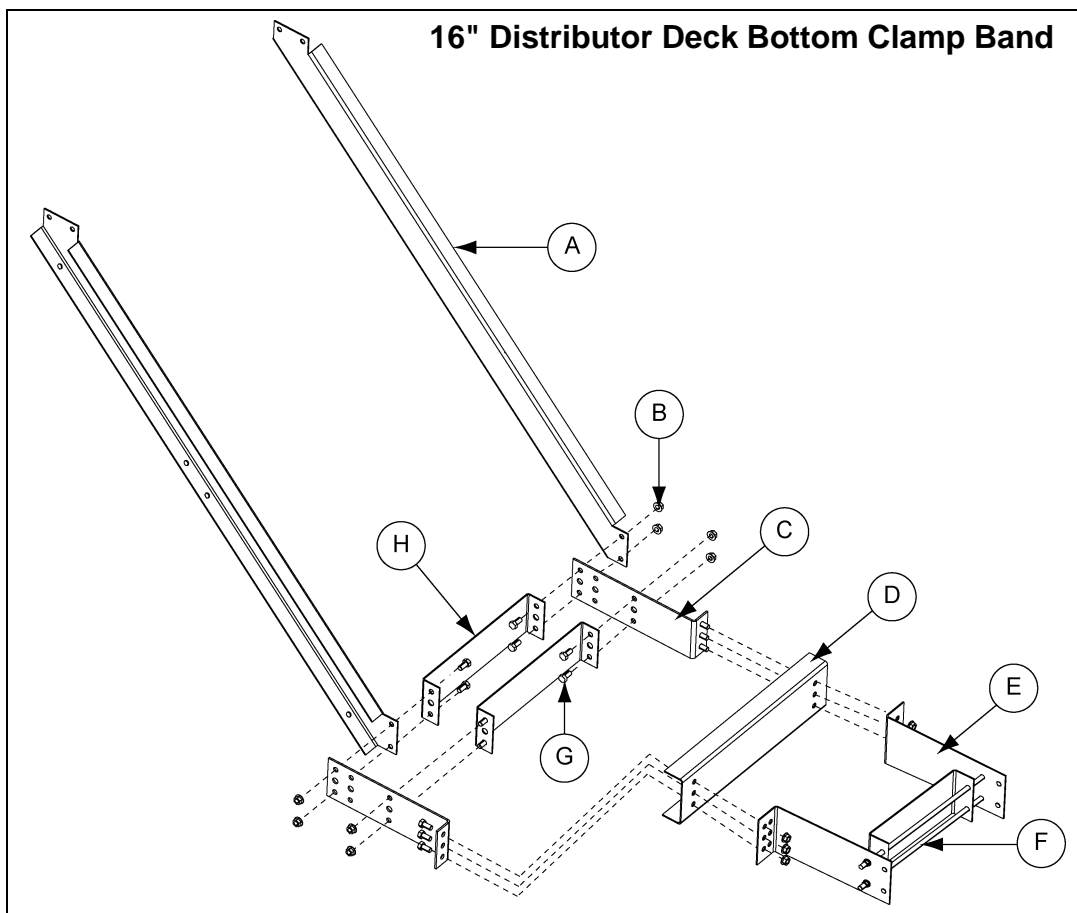

Figure 10B
1. Slide rods of clamp rod weldment into inside set of holes of clamp bands for 16" assembly. Fasten together using four (4) 1/2" hex flange nuts.
2. Line up the holes on one of the clamp struts with the set of holes closest to the bend on both of the 16"-24" long clamp clips and fasten all three (3) together using four (4) 1/2" x 1" bolt and nuts. Tighten only finger tight. Next orient the brace channels so the bends face outwards and line up the brace channel holes with the holes located at the end of the long clamp clips and the remaining clamp strut. Fasten all five (5) parts together using four (4) 1/2" x 1" bolt and nuts. Tighten finger tight. This will make up the brace channel assembly.
3. Assemble the clamp rod weldment, clamp channel and brace channel assembly at same time around the trunking leg and line up holes on 16"-24" long clips and clamp channel with the **outside set of holes** on the clamp rod weldment. Fasten all three (3) together using six (6) 1/2" x 1" bolts and nuts. (See Figure 10B.)